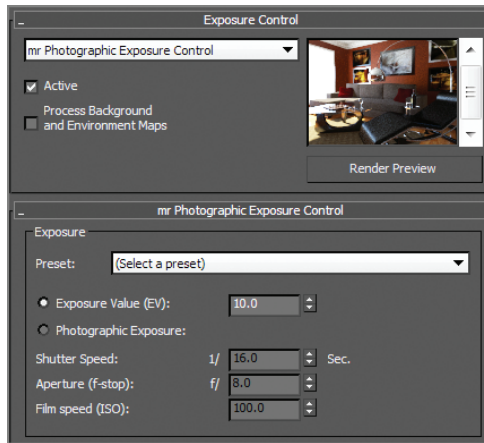

FIGURE 16.34 The mr Photographic Exposure Control rollout
16. In the mr Photographic Exposure Control rollout, change Exposure Value (EV) from 15 (the default) to 10, as shown in Figure 16.34. You should see the render preview change to show the update.